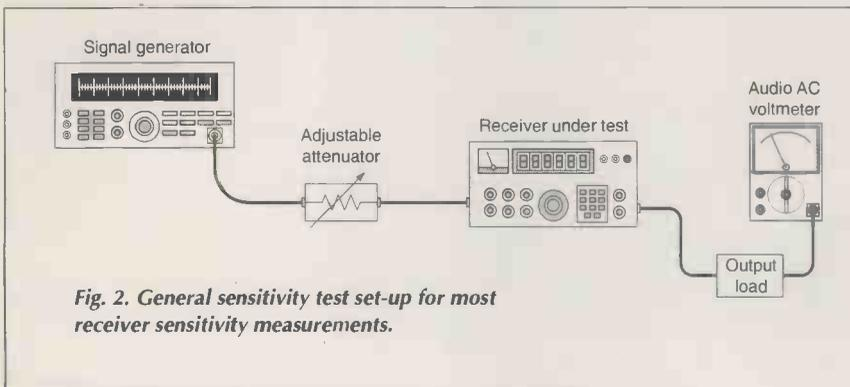

Fig. 2. General sensitivity test set-up for most receiver sensitivity measurements.
Figure 2 shows the test set-up for most receiver sensitivity measurements. The attenuator is optional, and may not be needed if the signal generator is adequately equipped with a good quality calibrated output attenuator. When measuring an AM receiver, set the signal generator modulation for 30 percent depth and 1000Hz.
- Connect the equipment as in Fig. 2, and set the receiver and signal generator to the same frequency.
The same equipment set up of Fig. 2 can be used for this measurement. A power of 400mW into an 8Ω load is the same as 1.789V RMS, which can be read on the AC voltmeter. I recommend using an 8Ω noninductive resistor for the load rather than the loudspeaker since the sound levels
- Measure the 10dB S+N/N sensitivity as discussed above (see Fig. 2 for set-up) and write down the figure.
- Connect the receiver and signal generator as in Fig. 2. Keep the signal generator output at zero. The modulation – deviation – should be set to whatever is appropriate for the class of receiver being measured.